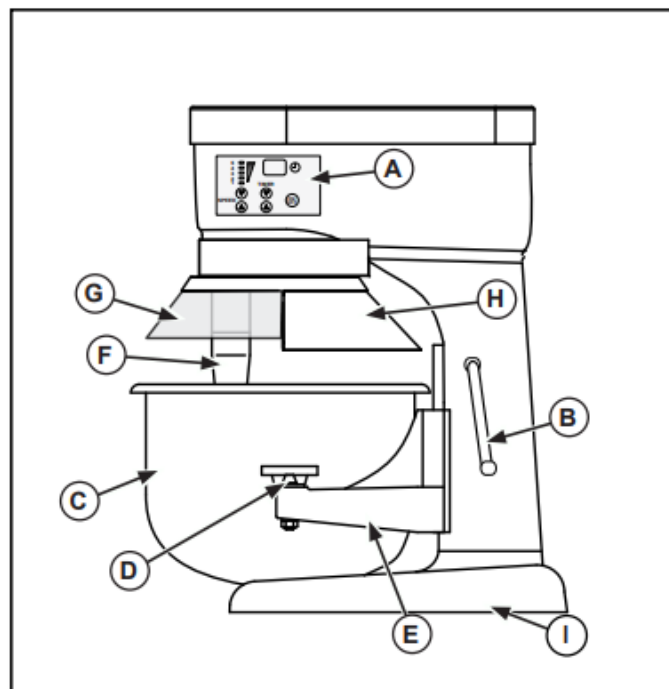

Figure 1. 7 Quart. and 10 Quart. Mixer, Features and Controls.
2. Before attaching the bowl select the mixing attachment you will be using. Place your selected mixing attachment inside the empty bowl (C). Do not attempt to fit the mixing attachment onto the mixing shaft (F) before the bowl is in position. See Figures 1, 2, 3, or 4.
3. Lower the bowl cradle to its lowest position by rotating the bowl lift (B).
4. Rotate the bowl clamp levers (D) to the out or back position.
5. Hold the bowl (C) so that the pin on the bowl is facing towards the mixer. Position the bowl so that the pin is lined up with the pin slot on the bowl cradle (E). Slide the pin into the slot.
6. Align the holes on the bowl tabs with the pins on the bowl cradle (E). Set the bowl (C) on the bowl cradle (E).
7. Rotate the bowl clamp levers (D) to the front over the bowl tabs to secure the bowl (C) onto the bowl cradle (E).
8. Install the attachment to the mixing shaft (F). Ailing the grove on the attachment with the pin on the mixing shaft. Push the attachment up and rotate to lock onto the pin.
9. Raise the bowl (C) to its maximum height using the bowl lift (B) by rotating in a counterclockwise direction until it snaps into place.
1. Close the bowl guard (G). See Figure 1. The safety guard must be closed for the mixer to operate. If the safety guard is open or not closed properly then the mixer will not operate.